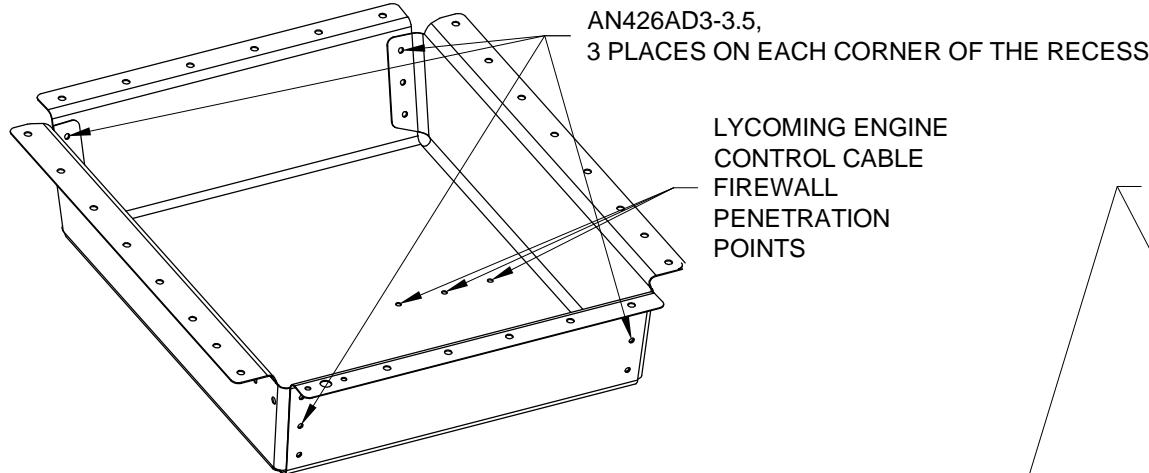

FIGURE 1: PREPARING THE RECESS
Step 3: Rivet the holes that attach the F-1001K Recess to itself as called out in Figure 1. If using a Lycoming engine enlarge the three control cable holes indicated in Figure 1 to 5/8 diameter. If not using a Lycoming engine final-drill and dimple these holes #40 then fill them with AN426AD3-3 rivets.
Step 5: Final-Drill #40 all the nutplate attach rivet holes. Final-Drill the screw holes for the two K1000-4 nutplates 1/4 diameter and the screw holes for the fourteen K1000-3 nutplates #12. Final-Drill #40 the eight holes common to the F-1001A Bulkhead and the F-6122-1 Tri-Gear Brake Bracket. Final-Drill #30 all the remaining holes common between the bulkhead and the parts clecoed together in Step 4. Final-Drill #30 all the holes common to the F-1001J-L and -R Longeron Gussets and the F-1001D and F-1001M Side Angles. Final-Drill #30 all remaining open holes that attach the oil cooler (see Page 27-5 Figure 1) and the open holes for the upper fwd fuse ribs, see Figure 2.